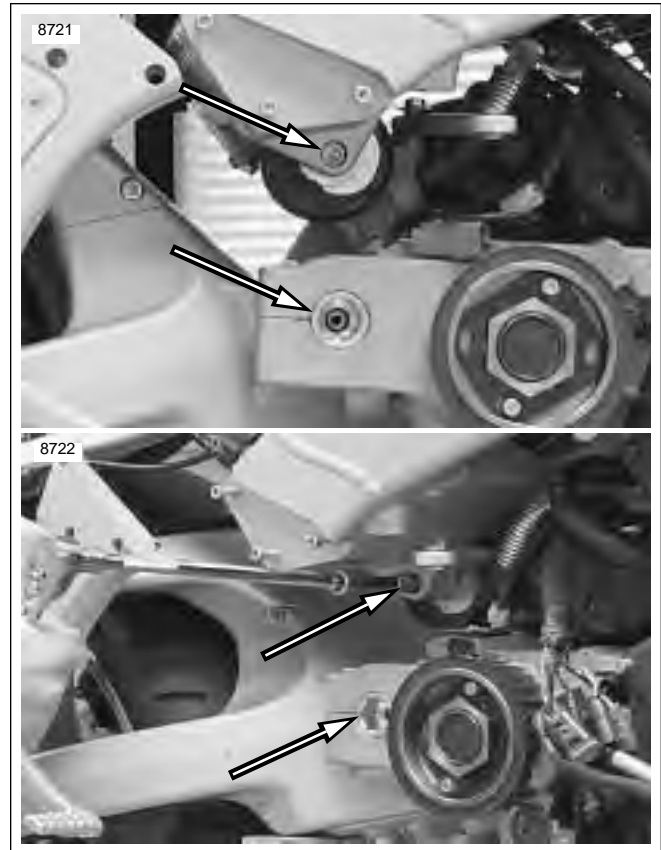

Figure 3-24. Rear Isolator Bolt and Swingarm Pivot Shaft (Typical)
33. See Figure 3-24. After rotating engine back up into frame, continue to remove: